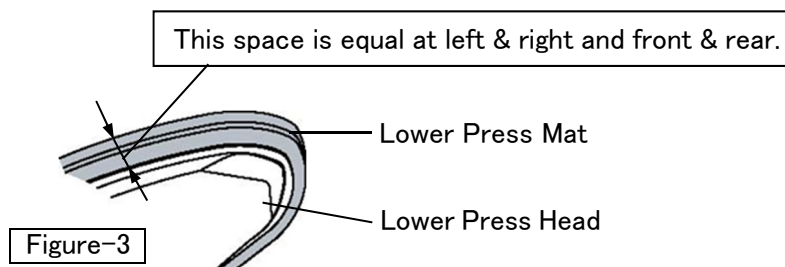

Figure-3
- ③ See from the lower view and make sure that right & left and front & rear side of the mat are evenly set against the press head. Tie the string firmly. (Figure-3)